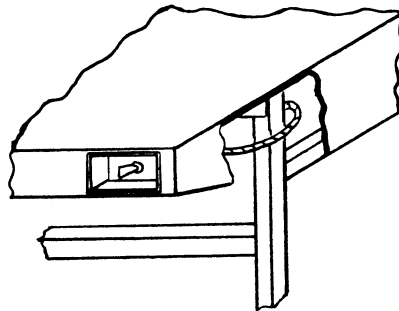

Figure 6-25. Correct Routing of Cable Before Installing Top
4. When all leaks have been corrected, replace the stainless steel top and bolt down with the two bolts and two nuts (see paragraph 6-6.2), first routing the cable as shown in Figure 6-25.